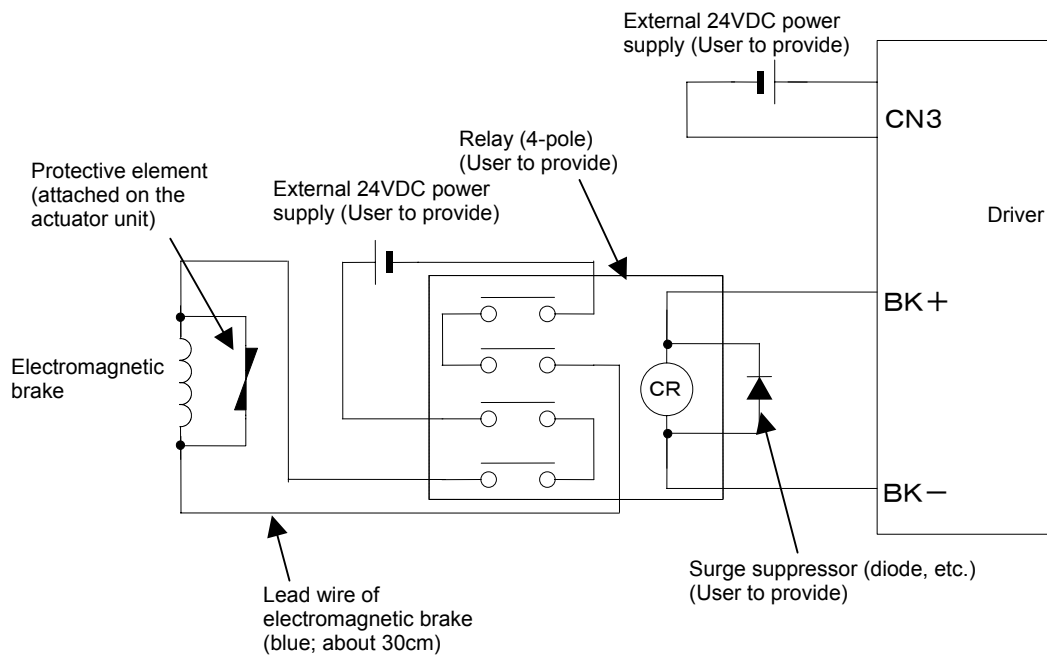

Fig. 3.7 Recommended Circuit 2 for Electromagnetic Brake
- Use a relay having a contact capacity 10 times or larger than the rated current. If the contact capacity is smaller, use a 4-pole relay and connect as shown in Fig. 3.7. The contact life of the relay will be extended.